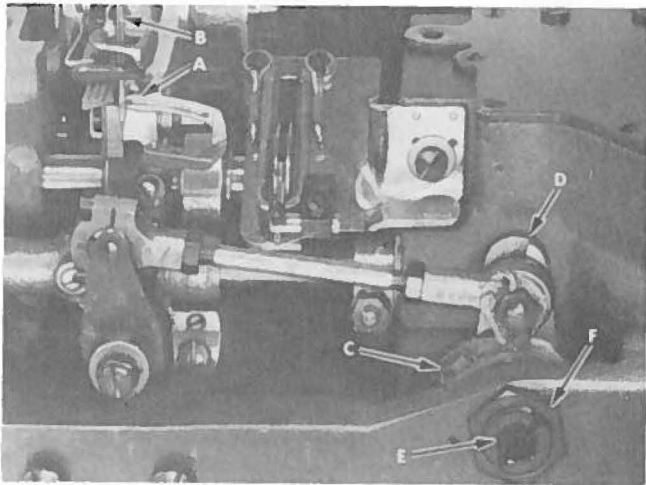
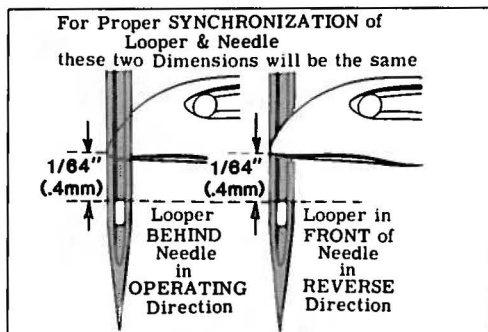
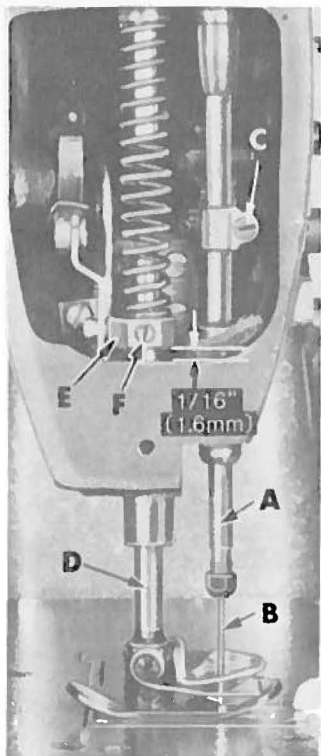

Fig. 3
Fig. 4
Fig. 8
Turn handwheel in the operating direction until the point of the looper (A, Fig. 3) moving to the left, is even with the left side of needle (B). Note the height of the eye of the needle with respect to the looper point (See Fig. 4). Turn the handwheel in the reverse direction until the point of the looper again moving to the left, is even with the left side of needle (See Fig. 4). If the height of the eye of the needle with respect to the looper point are the same, looper and needle motions are synchronized - a variation of .005 inch (.127mm) is allowable. If the distance from the eye of the needle to the point of the looper is greater when the handwheel is turned in the operating direction, the looper
NOTE: The 1/64 inch (.4mm) dimension shown in Fig. 4 is for final setting of needle bar height.
Loosen screw (C, Fig. 3) in looper drive lever (D). A rod of .146-40 thd. or Union Special Screw No. 22870 A can be threaded into the looper drive lever rocker shaft through the center of thrust adjusting screw (E). Tap or pull slightly as required to position shaft for proper synchronization. Tighten screw (C) securely and remove rod or screw used to position shaft.
Height of needle bar (A, Fig. 8) is correct when the top of the eye of needle (B) is  $\frac{1}{64}$  inch (.4mm) below the underside of looper as shown in Fig. 4. Adjustment can be made by loosening screw (C, Fig. 8), move needle bar (A) up or down as required, retighten screw.
Height of presser bar (D, Fig. 8) is set correctly if it is possible to remove the presser foot when the foot lifter lever, located at the back of the machine and extending above the upper crank chamber cover is fully actuated (pulled to the right). There should be approximately 1/16 inch (1.6mm) clearance between lower surface of the presser bar connection and guide (E) and bottom surface of head opening in the bed when foot lifter lever is released and presser foot lying flat on the throat plate with feed dog below throat plate.